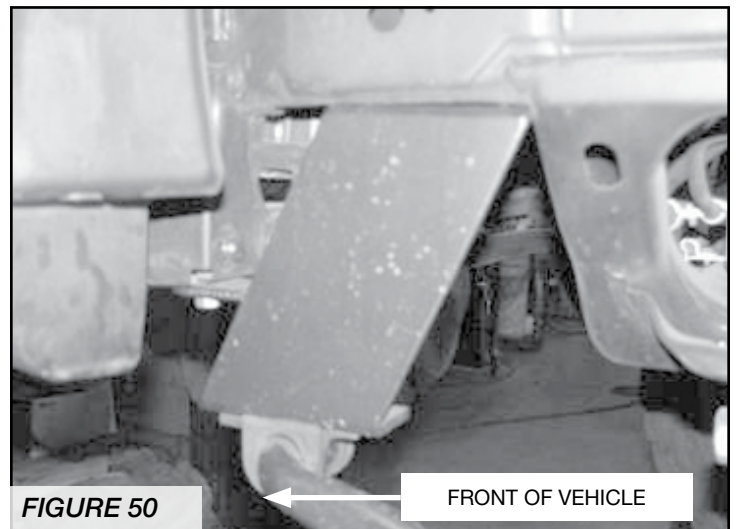

FIGURE 50
36. Install the sway bar to the new drop brackets with the supplied 3/8" hardware. (the sway bar will need to be mounted upside down from the factory position). **SEE FIGURE 50**